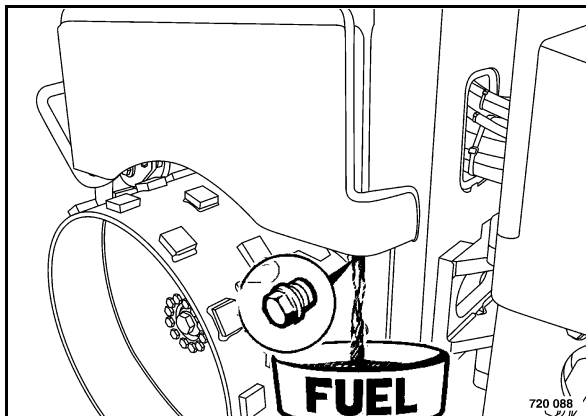

Fig. 112
- Place the suitable container under the fuel tank drain plug(Fig. 112).